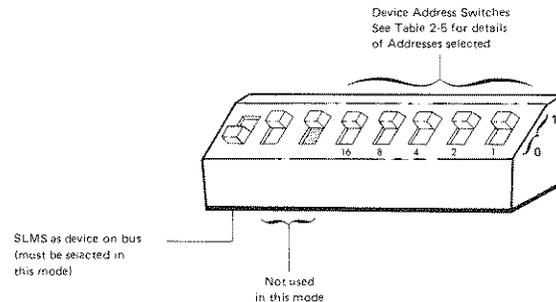

Figure 2-6 HP-IB Switches – SLMS as Device on Bus
2-52 The settings of the CNTRL switch (see Figure 2-6) on the SLMS rear panel to the CNTRL OFF (0) position configures the SLMS as an HP-IB device under the remote control of a separate HP-IB controller.
2-54 Each device in the HP-IB system requires a unique address to enable the system controller to differentiate between devices. The SLMS has one listen address and three talk addresses. The addresses are defined by the setting of the Device Address switches within the HP-IB switch bank on the SLMS rear panel. The setting of these switches and the corresponding listen and talk addresses are illustrated in Figure 2-6 and Table 2-5 respectively. Note that the device address switch must not be set between 29 and 31 inclusive since this will cause invalid addresses.